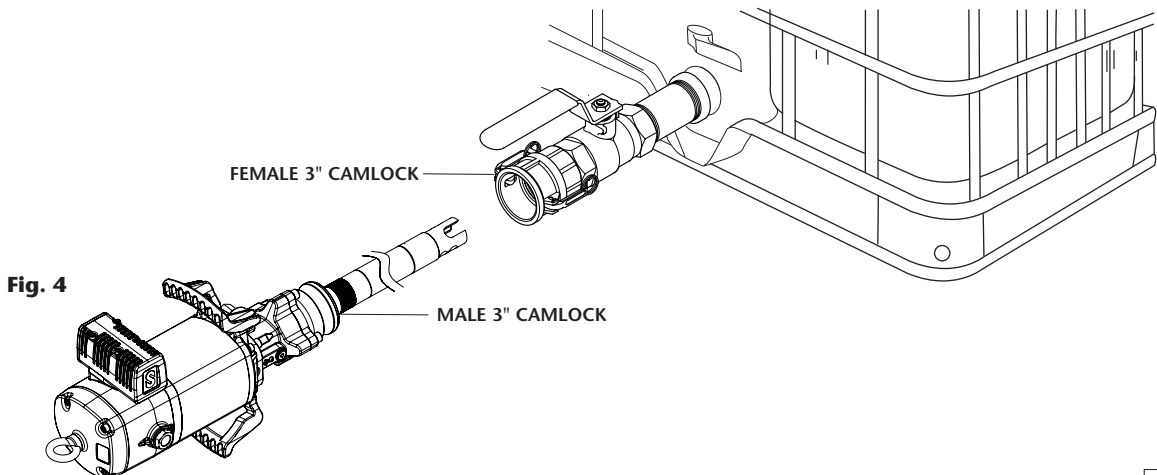

Fig. 4
- Horizontal mounting to a bulk container (531430, 531431 pumps). These pumps have the male part of a 3" camlock which would connect to the female part installed in the container (fig. 4).
- Montaje horizontal directamente a depósito (bombas 531430, 531431). Estas bombas incorporan la parte macho de un camlock de 3", que se acoplaría a la parte hembra colocada en el depósito (fig. 4).
Figure 4 is a typical installation shown with all the recommended accessories for the pump to operate correctly.